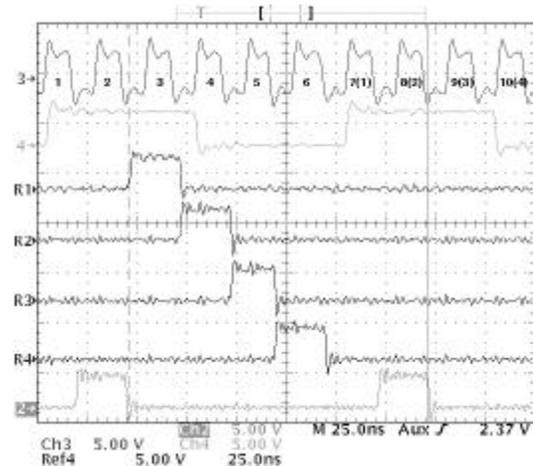

Figure 6. Timing Diagram
The timing diagram for the device is shown in Figure 6. The first signal (3) is the 40 MHz write clock. Signal 4 is the 6.6667 MHz read clock. During the rising edge of the read clock the data from the ADC is available at the inputs of the ASM2MUX after a 9 ns propagation delay³. This data is latched on to the input latches of the ASM2MUX on the rising edge of the wclk #2. The internal muxing sequence starts at the rising edge of wclk#2 and takes 6 cycles to complete from wclk#2 to wclk#7. The output from the device is available during the negative edge of its respective internal multiplexor selection cycle as it can be seen from Figure 6. This is done so that enough timing margin exists for the gigabit link chip to serialize the output data from the ASM2MUX devices. The gigabit link latches its inputs on the rising edge of the write clock. So, the ASM2MUX device has a 2.5 write clock cycle latency at its output and the data output
The input data is latched into the input latches only on the rising edge of write clock cycle #2 (refer to Figure 6). This gives the ASM2MUX the capability to work with ADC's with longer output